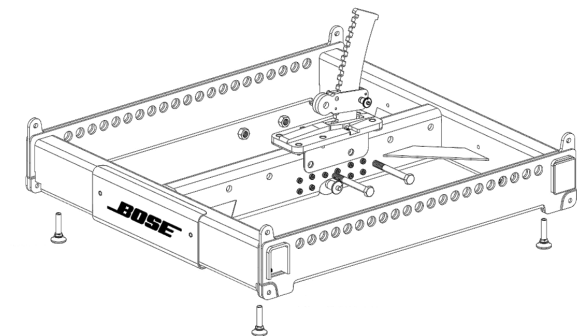

Fig. 6. Ground stack bracket on array frame
1. Attach the leveling feet to the bottom of the frame. See Fig. 6. Fully tighten each screw to ensure the feet are level.